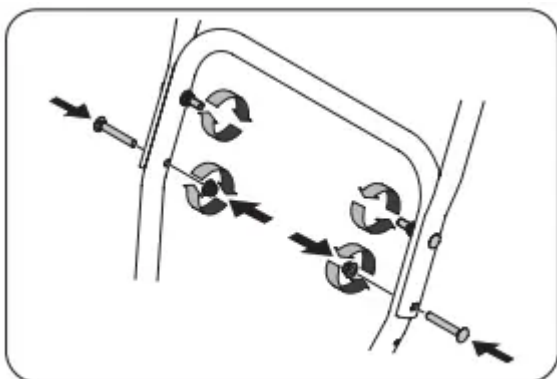

Figure 6
- Attach the two carriage screws and lock nuts removed in Step 2. Finish securing the handle by tightening the top two lock nuts loosened in Step 2. See Figure 6 or Figure 7 for units with side supports.